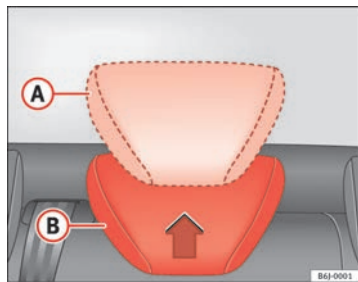

Fig. 5 Adjusting the rear head restraints
- Raised position or position for use (A) ⇒ fig. 5. In this position, the head restraint is used normally, protecting the occupant of the rear seats, along with the rear seat belts.
- Rest position, not in use (B) ⇒ fig. 5. This position improves the driver's rear visibility.